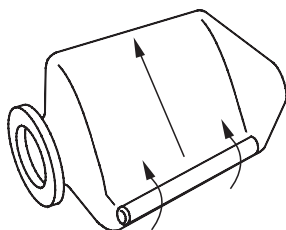

Figure 4 – Roll diagonally toward neck
- To get tightest possible wrap, start on one side at top and **TIGHTLY** roll water cell diagonally to other side (see Figure 4). To force out as much air as possible, be sure to roll toward water cell neck opening.